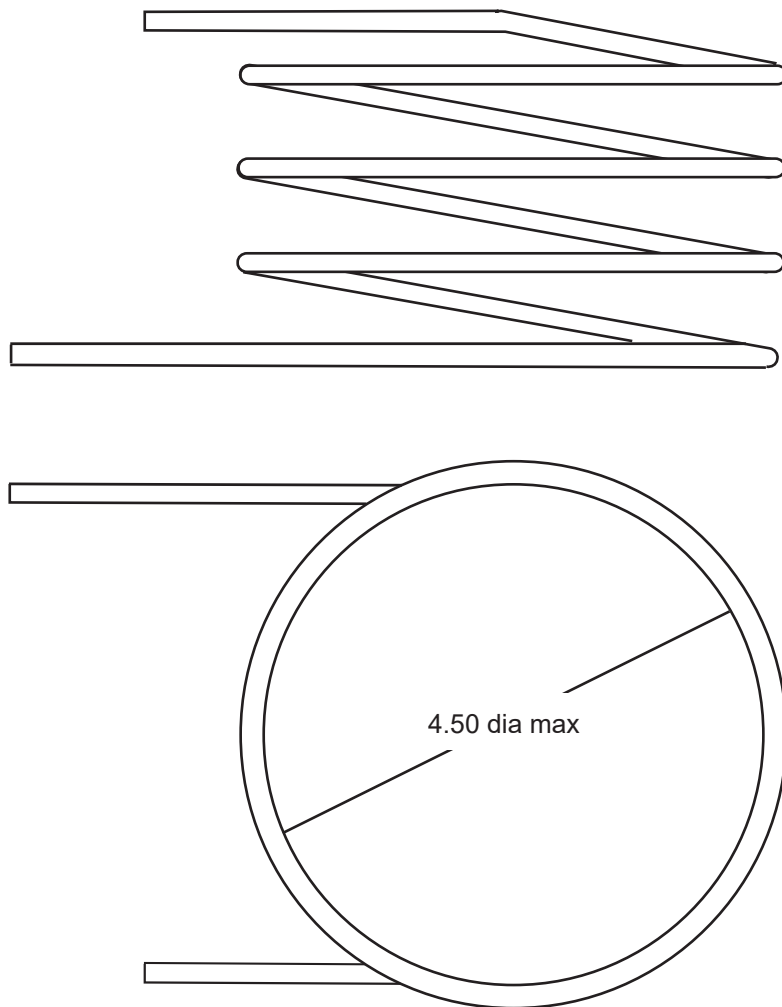

Figure 4-2
The oven is designed to accept twenty (20) feet of 1/4" column tubing. Correspondingly longer lengths of 1/8" tubing can be wound on a mandrel of 4" o.d. (a standard 1 lb. coffee can is about 4" in diameter). This technique **SHOULD NOT BE USED** with 1/4" tubing. Figure 4-2 illustrates column "B". An appropriate column or bypass must be installed in both "A" and "B" sides.